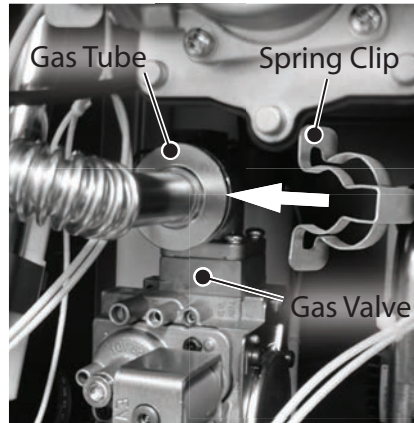

Figure 90 - Secure gas tube with spring clip
- 18** Locate the four (4) screws previously removed in **Step 10**. Use screws to secure fan and venturi assembly to burner assembly.
- 19** Connect the gas tube to the gas valve. Locate the spring clip previously removed in **Step 9**. Orient spring clip properly as shown in Figure 90. Install spring clip to secure the gas tube to the gas valve. Confirm gas connection is tight and will not leak.